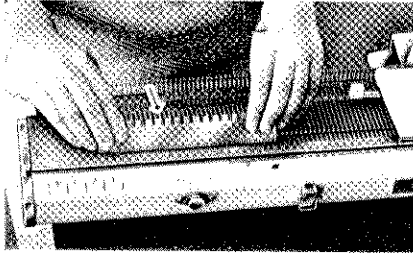

Fig. 22
3. All needles are to be placed in the position A (rear resting position) (See Fig. 22)